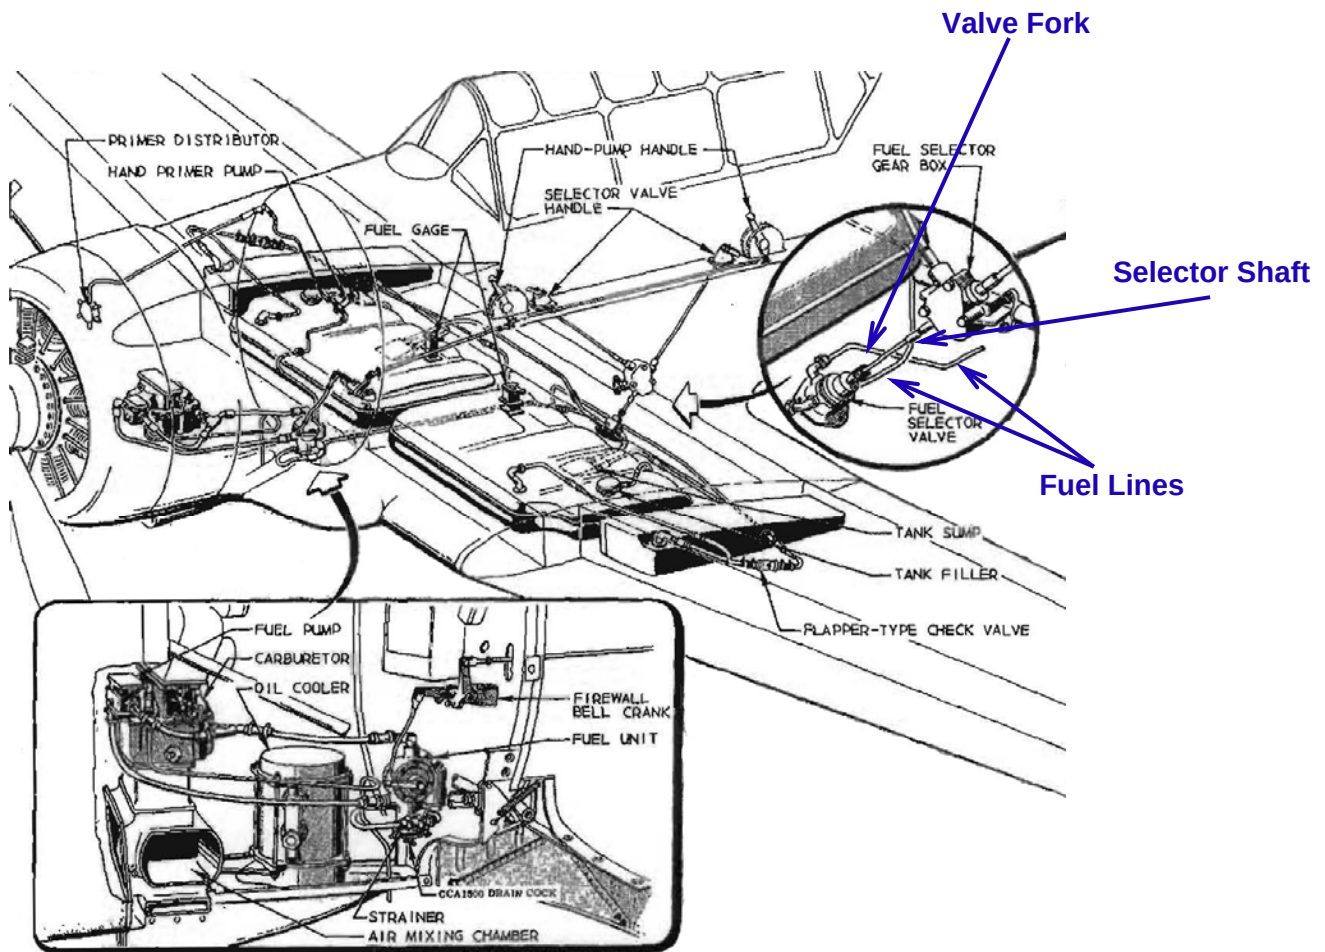

Figure 2 – Installed Valve Location
3. Remove fuel lines from fuel valve. Right tank fuel line can be accessed through access hole previously removed right of fuel valve, See Figure 2
Note: At this time check the fuel valve selector shaft, see Figure 2, coming down from the cockpit to turn the selector valve. One (1) tab on the end of the shaft is wider than the opposite side. Select the correct Fork supplied with the CJ Aviation Replacement Fuel Selector Valve to match the fork required.